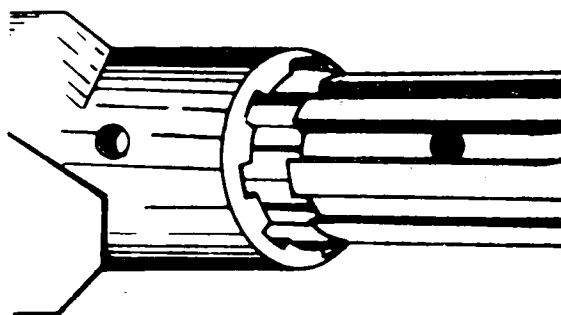

Fig. 1
- b) Couple the drive shaft to the power take-off shaft making sure that the holes coincide (Fig. 1).